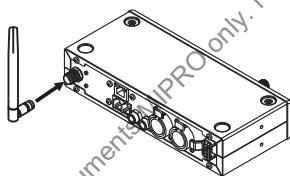

Fig. 2
(A) Rear Antenna Installation: Attach supplied antenna to the antenna connector **10**. Ensure both the antenna and the transmitter have the same frequency band for optimal transmitting efficiency, as Fig. 2: